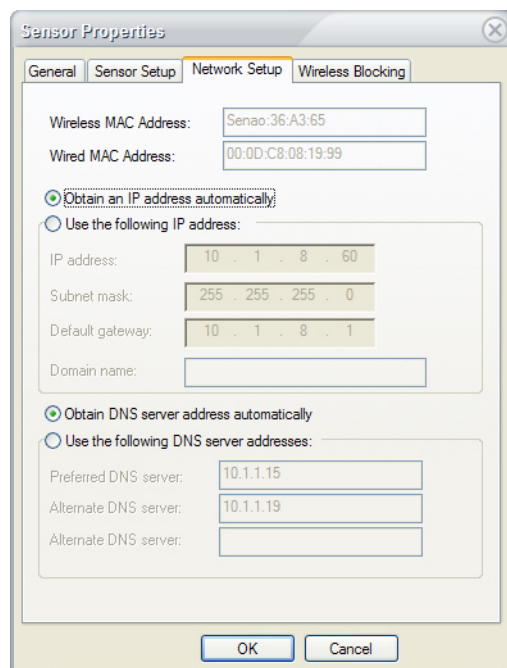

Figure 4-45: Modifying Sensor's network settings
- 10) Click the Network Setup tab. The Sensor Properties dialog box refreshes. See Figure 4-45.